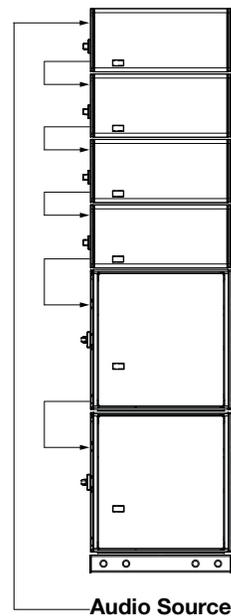

Figure 5: Mixed Groundstack
- Mixed groundstacks of LEOPARDS and 900-LFCs (Figure 5)